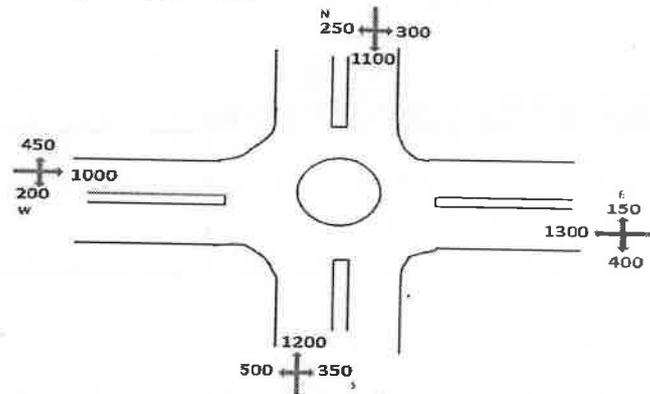

Fig 1. Rotary intersection with traffic data.
- 11.A). Analyze the frame shown in Figure 1 by Moment distribution method. Draw the bending moment and shear force diagram. 10M